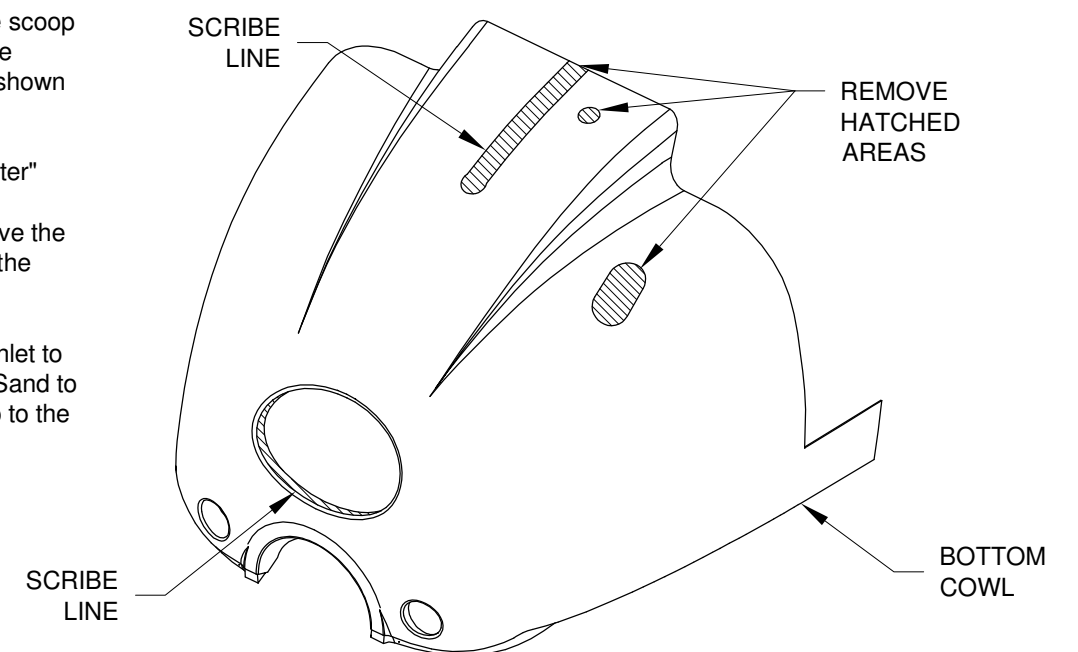

**FIGURE 3: FASTENER LOCATIONS**
**Step 4:** Clamp the top and bottom cowls together as shown in Figure 3. Mark the three hole pattern shown in Figure 3 on both sides of the top cowling. Drill #40 the most inboard hole on each side then cleco these two holes. Remove the clecos and separate the top cowl and bottom cowl.